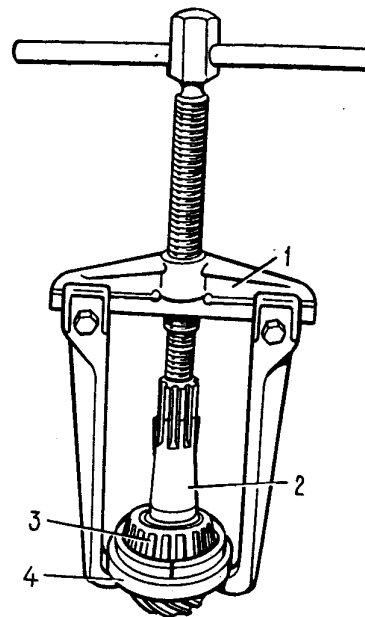

Fig. 3-70. Removing Drive Pinion Rear Bearing Inner Cone with General-Purpose Remover Tool A.40005/1/7:
- remove the spacer sleeve from the drive pinion and, using remover tools A.40005/1/7 and A.45008 (Fig. 3-70), remove the inner cone of the rear roller bearing;